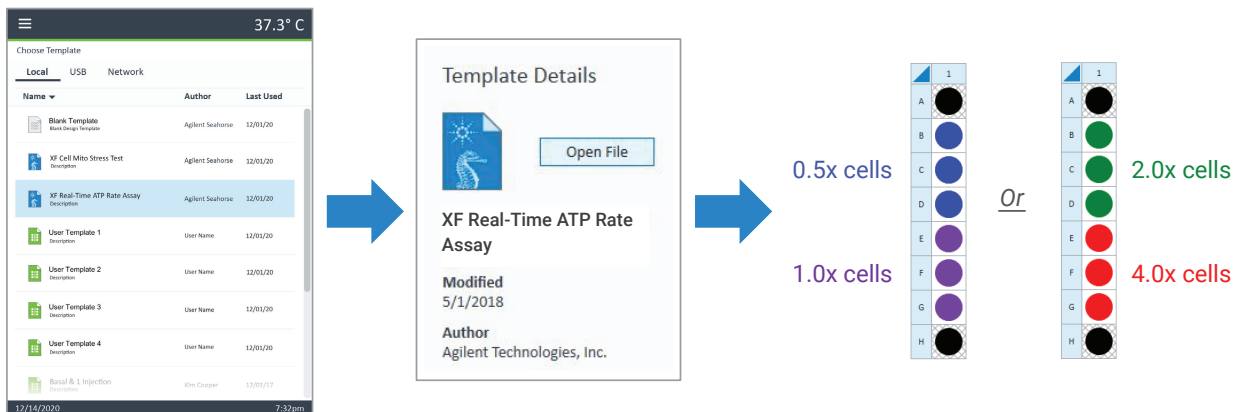

Figure 2. Select the XF Real-Time ATP rate assay template to modify.
- Design an assay template using the Seahorse XF Real-Time ATP rate assay template on the Seahorse XF HS Mini analyzer (Figure 2).